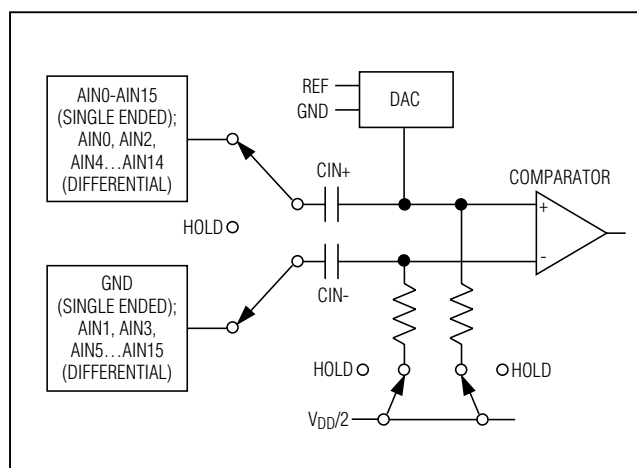

Figure 3. Equivalent Input Circuit
**Note 6:** See Figure 3 (Input Equivalent Circuit) and the *Sampling Error vs. Source Impedance* curve in the *Typical Operating Characteristics* section.
The MAX1226/MAX1228/MAX1230 use a fully differential ADC for all conversions. The analog inputs can be configured for either differential or single-ended conversions by writing to the setup register (see Table 3). Single-ended conversions are internally referenced to GND (Figure 3).
The equivalent circuit of Figure 3 shows the MAX1226/MAX1228/MAX1230's input architecture. In track mode, a positive input capacitor is connected to AIN0-AIN15 in single-ended mode (and AIN0, AIN2, AIN4...AIN14 in differential mode). A negative input capacitor is connected to GND in single-ended mode (or AIN1, AIN3, AIN5...AIN15 in differential mode). For external track-and-hold timing, use clock mode 01. After the T/H enters hold mode, the difference between the sampled positive and negative input voltages is converted. The time required for the T/H to acquire an input signal is determined by how quickly its input capacitance is charged. If the input signal's source impedance is high, the required acquisition time lengthens. The acquisition time,  $t_{ACQ}$ , is the maximum time needed for a signal to be acquired, plus the power-up time. It is calculated by the following equation: